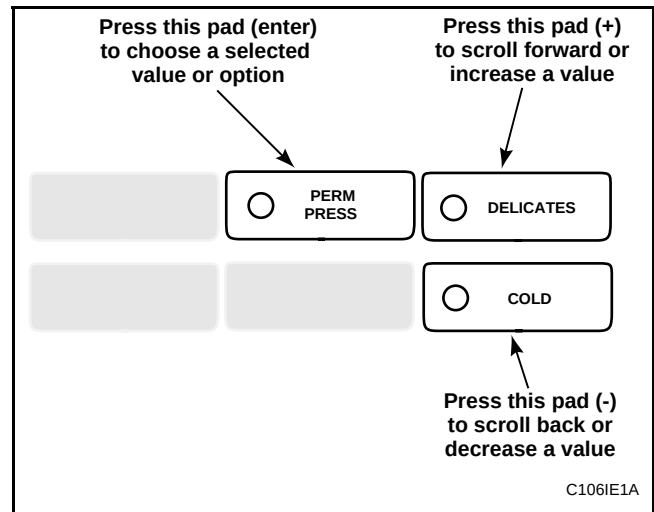

Figure 36
5. Press the DELICATES (+) or the COLD (-) keypad to increase or decrease the current number of minutes displayed in the VFD to the desired number of minutes. See **Figure 36**.